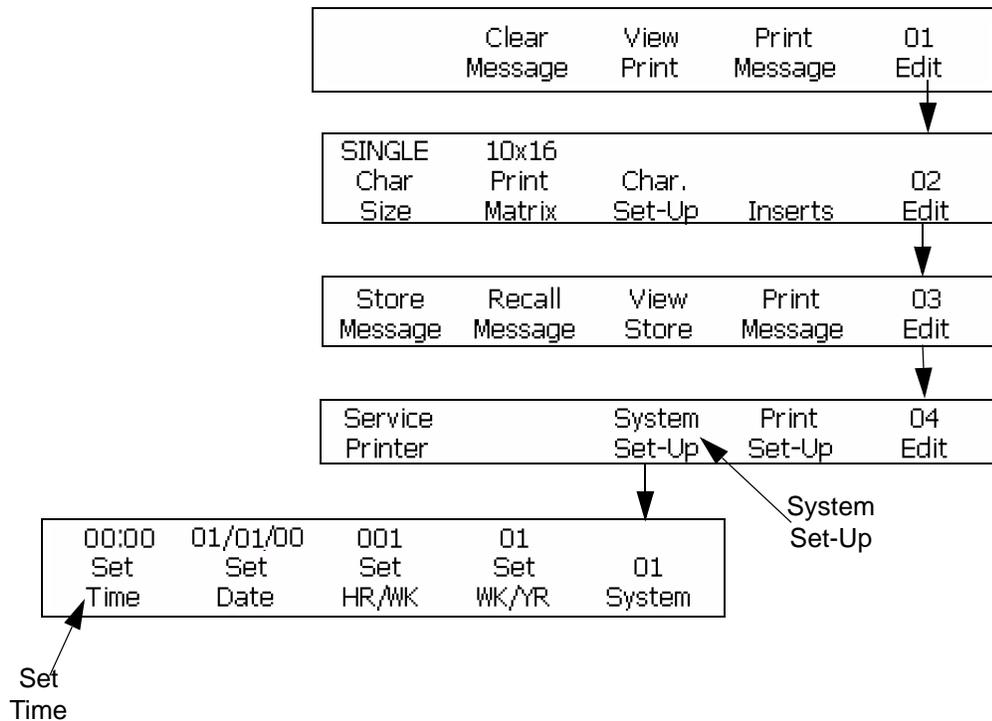

Figure 7-5: Access Frame <01 System>
- 1 Begin with the frame <01 System>. Refer to Figure 7-5.